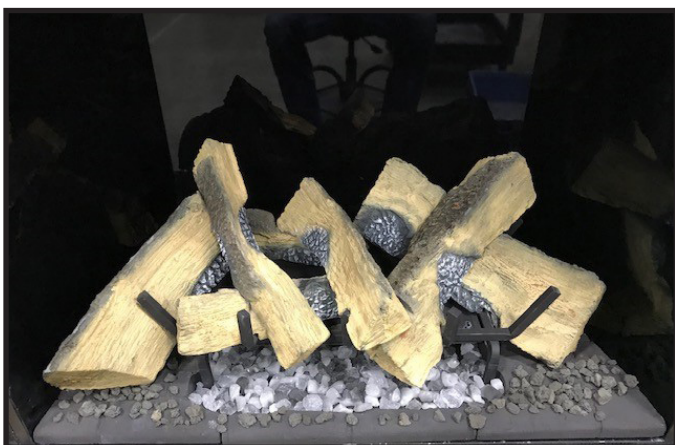

Figure 11.9. Apply Lava Rock
1. Apply the lava rock as shown in Figure 11.9. The lava is to be placed around the base hearth refractory and can be used to conceal the joints of the hearth base refractory pieces.